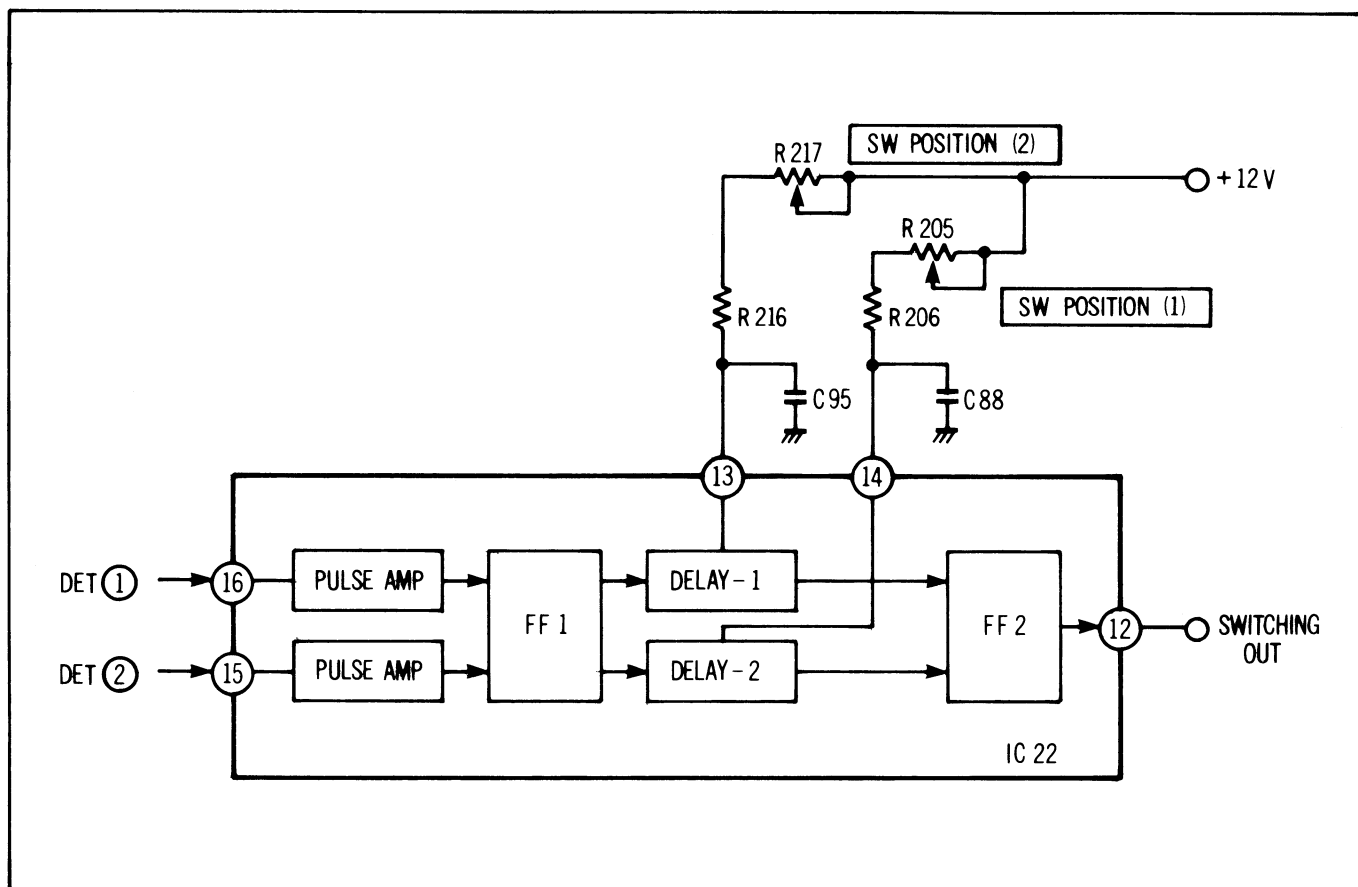

Figure 2-133
They are amplified at IC22 (15) and (16) on the sub servo circuit board (VEP00598) and then are supplied to F-F and Delay circuits within IC22. The output of the delay circuits toggle another Flip-Flop inside IC22. The head switching signal appears at pin (12) of IC22. The block diagram is shown in Fig. 2-133.